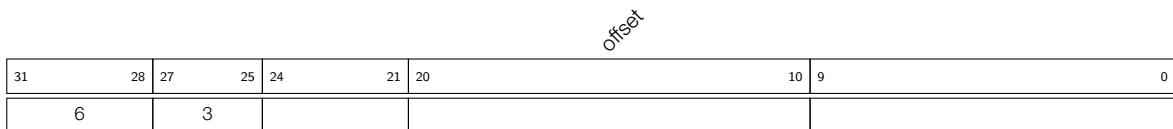

Figure 1-11. Instruction Type - Offset in Automatic Storage Mode (ST-OFFSET)
- Operand Description** - see Figure 1-11